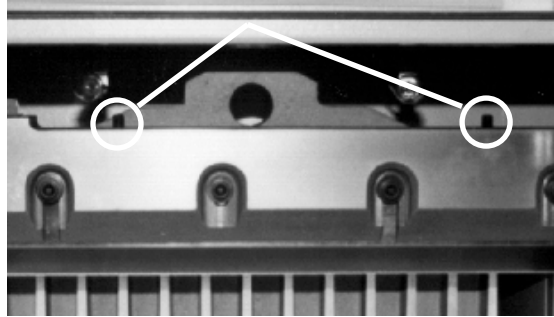

Figure 36
2. Back off the knife adjusting screws on top of the knife bar several turns (Figure 36). A new knife will cut deeper than one that has been ground several times. Failure to back off the screws could damage the knife and/or the cutting stick.
6. Double check to make sure the knife adjusting screws have been backed out all the way (Figure 36, page 38). Guide the blade, left edge first, into the space between the knife bar guide frames on the left. Move the right end of the blade into the machine, under the knife bar slot. Align the lifters with the slots in the knife bar, raise the knife into the knife bar slot as high as it will go and tighten the lifters.